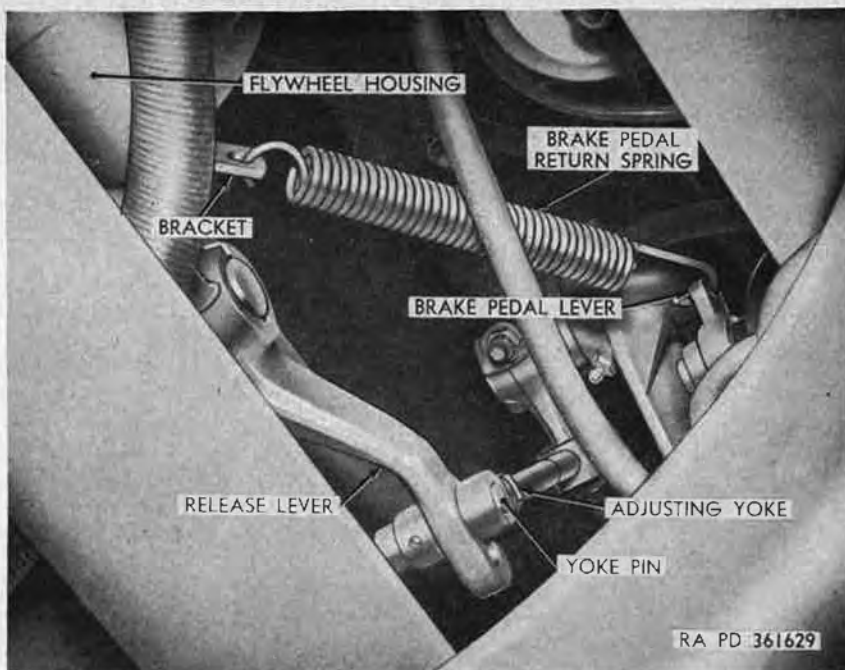

Figure 142. View of clutch linkage from under side of vehicle.
- (3) *Disconnect clutch linkage* (figs. 142 and 143). Pull outward on clutch-control-rod-adjusting-yoke pin at lower end of clutch control rod and remove adjusting yoke from clutch release lever.
- (5) *Disconnect brake pedal return spring* (fig. 142). Disconnect brake pedal return spring from bracket on left rear side of engine flywheel housing.
- (4) *Connect clutch linkage.* Position yoke on lower end of clutch control rod over clutch release lever and secure with yoke pin (fig. 142).
- (5) *Connect brake pedal return spring.* Insert lower end of brake pedal return spring in hole in bracket (fig. 142) on left rear side of engine flywheel housing.